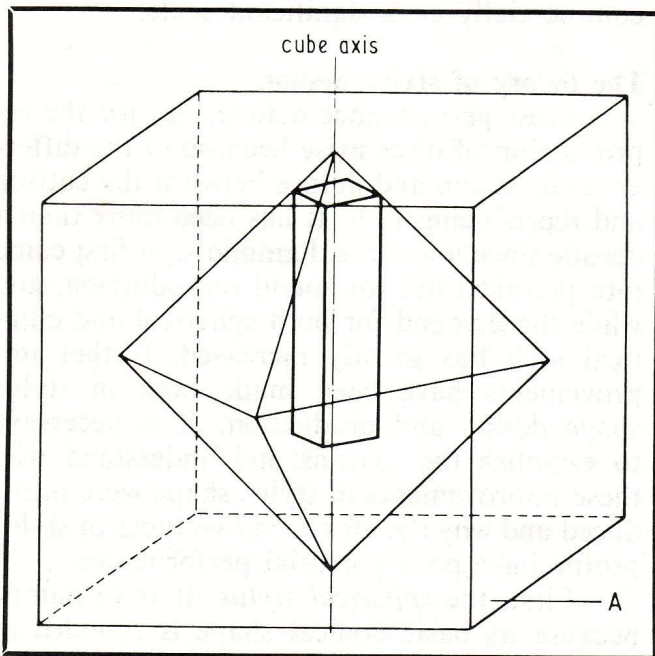
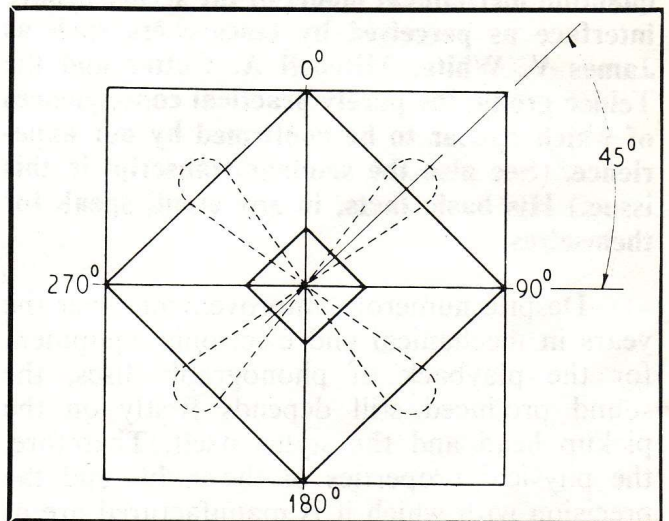

Figure 2: Orientation of cube, octahedron and rod.
Figure 3: Orientation of cube, octahedron and rod, as seen normal to cube plane.
Diamond styli are produced in three different qualities, which depend upon the size and nature of the natural diamonds. Three diamond sizes are used: (1) well-formed, flawless octahedrons; (2) small, 500-per-carat stones selected from grit; and for the cheapest styli (3) tiny, 1000-per-carat diamonds. (A carat is a unit of weight for precious stones equal to 200 milligrams.) The highest-quality styli are manufactured from octahedrons whose size depends upon the length of the stylus shank required. The initial stage is to prepare a rectangular rod of diamond from an octahedron. The orientation of the rod to the crystal symmetry is of extreme importance. The long axis of the rod must be within  $3^\circ$  of the cube axis, as seen in Figure 2, and the flat sides of the rod must be parallel to the octahedral edge (i.e., the  $45^\circ$  plane joining the two cube axes), as indicated in Figure 3.